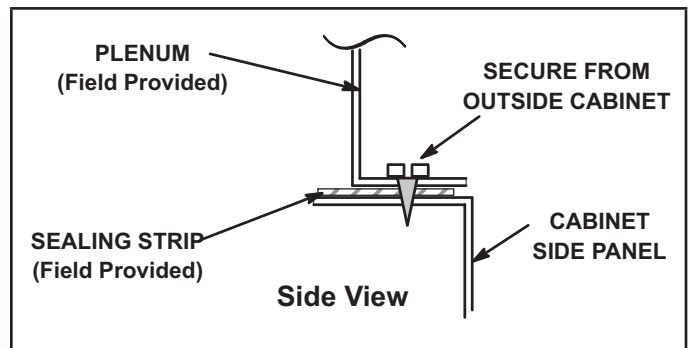

**FIGURE 16**
**Installation on Cooling Coil Cabinet FIGURE 16**